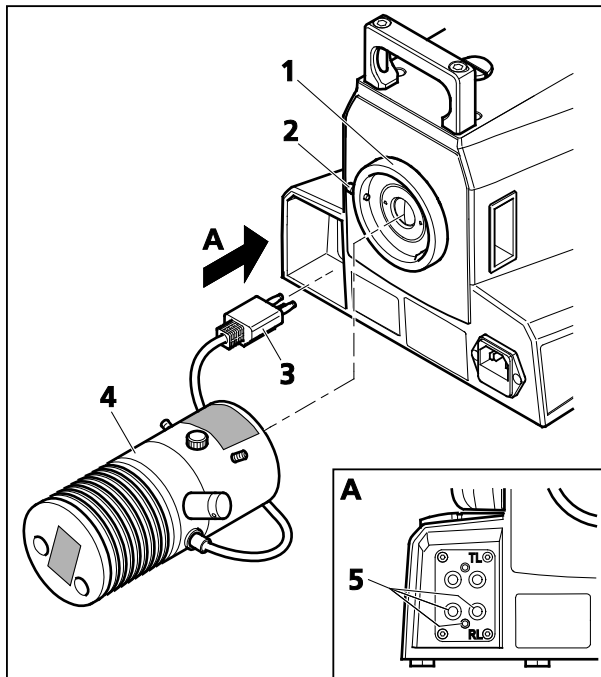

Fig. 3-19 Attaching the VIS-LED Illuminator
- Loosen the clamping screw (Fig. 3-19/2) on the reflected light port (Fig. 3-19/1) and remove the cap.
- Insert the attachment lamp (Fig. 3-19/4) with the dovetail ring into the port (Fig. 3-19/1). Use ball-headed screwdriver SW 3 and the locking screw (Fig. 3-19/2) to lock the illuminator firmly into position.
- Insert the three-pin illuminator plug (Fig. 3-19/3) into the lower socket (Fig. 3-19/5) for reflected light (RL) at the back of the instrument.